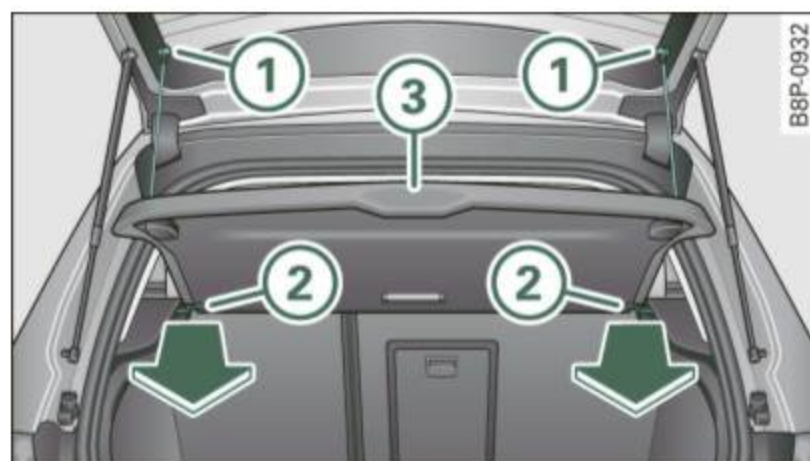

Fig. 85 Rear lid open with luggage compartment cover
- Detach the retaining straps ⇒ fig. 85 at the rear hatch ①.
- Pull the cover ③ horizontally out of the mount ② in the direction of the arrow.
- Push the cover horizontally into the mounts provided ⇒ fig. 85 ② on the side panel until the cover seats.
- Install the retaining straps in the rear hatch ⇒ fig. 85 ① ⇒ .